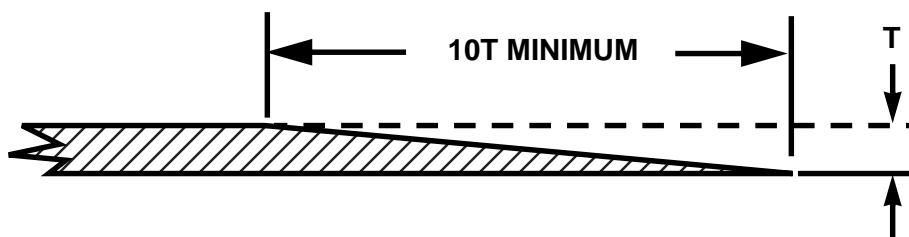

FIGURE 4 - BEVELLED EDGE OF LAMINATE
- Step 2. Bevel the exterior surface of the laminate in the area to be built-up to a minimum distance of 10 times the thickness of the laminate (see Figure 4) using 180 - 220 grit abrasive paper.